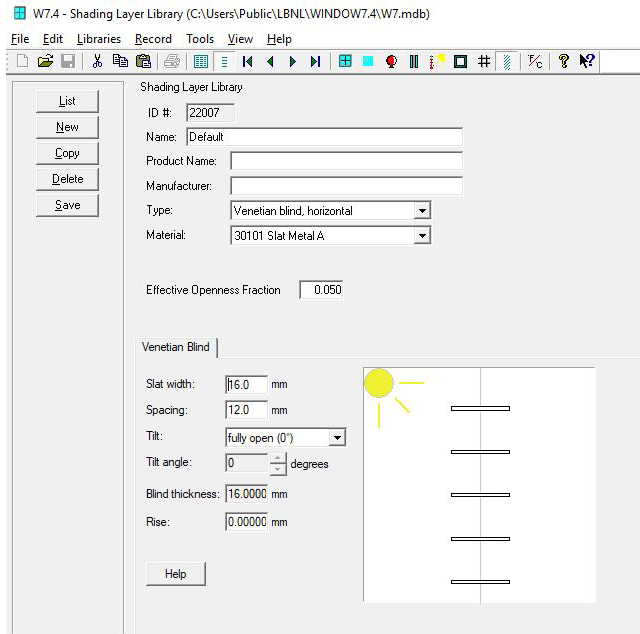

Figure 3: New Shading Layer Record.
3. The new record you just created will show on the last line in the list. Double click on it and a new window will open up. See figure 3